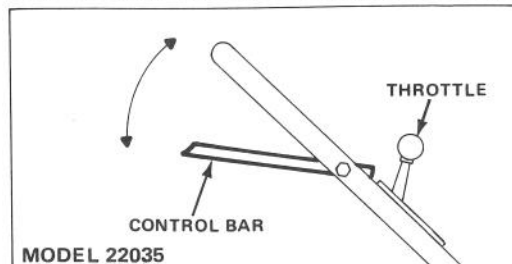

Figure 6
regulate throttle as desired when engine starts (Fig. 6).
5. **TRACTION OPERATION** (Model 22035) — Squeeze control bar against handle to drive. Ground speed varies, depending on space between control bar and handle (Fig. 6).